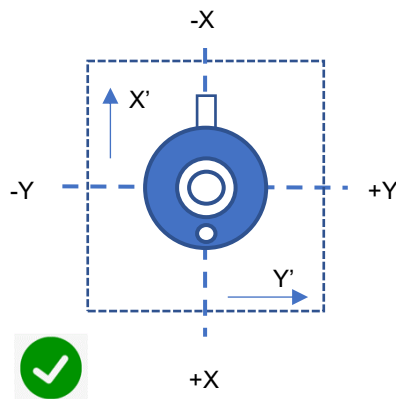
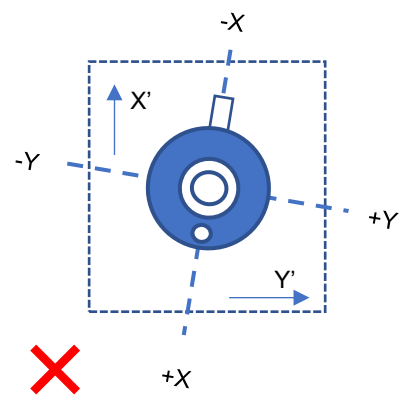

Figure 5-2B Tilt and roll angle corresponding to reference plane
Figure 5-2C Tilt and roll angle not corresponding to reference plane
For setup at tilted position: Setup the pyranometer with signal cable aligned with the installation platform (X' , Y'), see figure 5-2B. When the sensor is not aligned, the tilt (X) and roll (Y) measurement does not reflect the angle X' and Y' , see figure 5-2C.